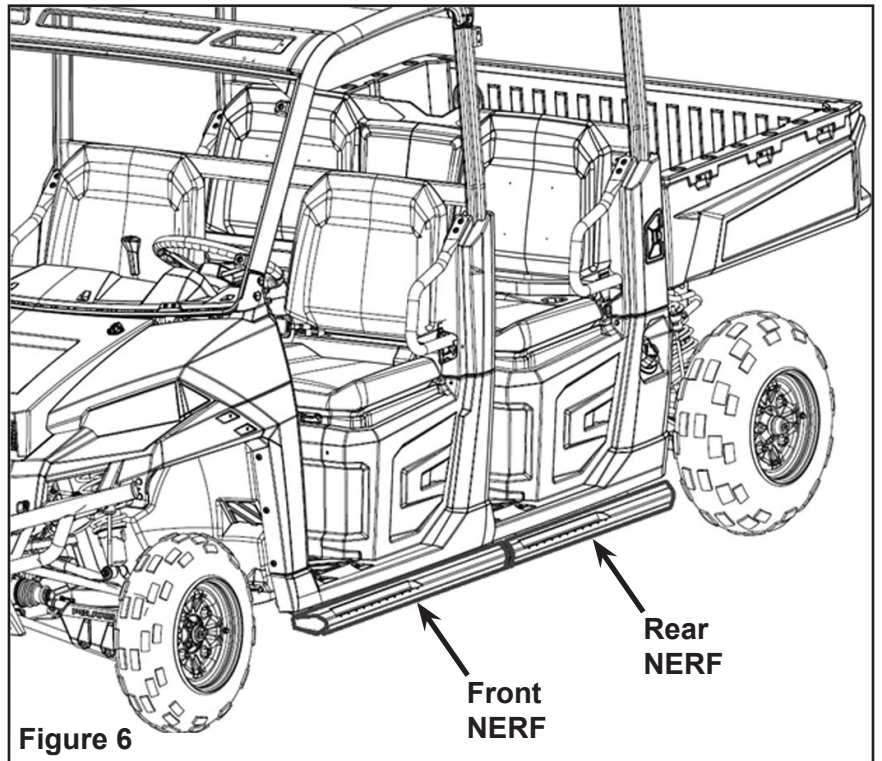

Figure 6
6. If necessary, make any final adjustments to orient the NERF bar (front and rear) for both left and right hand sides. Tighten the nuts to mount. Torque to 12-15 ft. lbs. (16.2-20.3 Nm). Tighten fasteners holding the mounting brackets to the vehicle frame to 12-15 ft. lbs. (16-20.3 Nm). Check for any loose fasteners and tighten prior to using the vehicle. Figure 6.